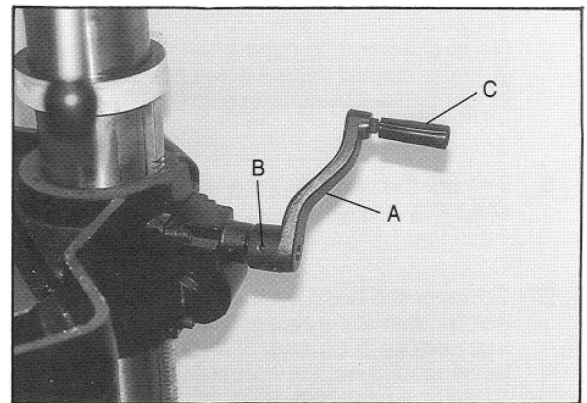

Figure 1
- 1. Slide crank (A, Figure 1) onto the table raising assembly shaft.
- 2. Tighten the set screw (B, Figure 1) to hold the crank in place
- 3. Install the handle (C, Figure 1) onto the crank